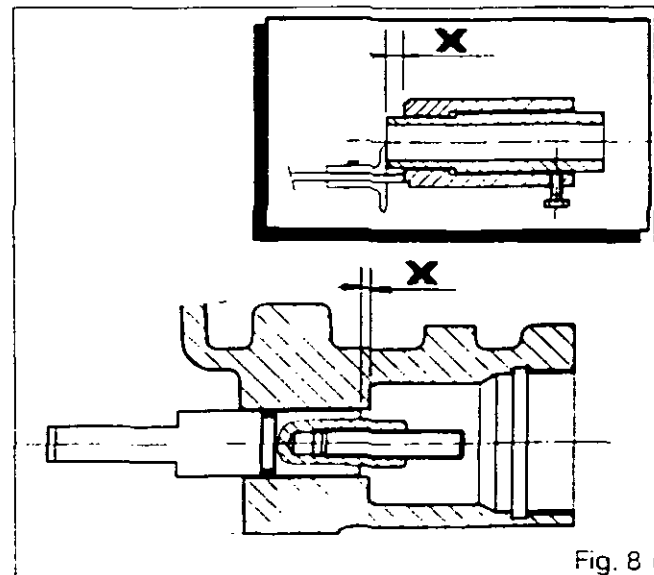

Fig. 8
13. With a depth gauge, measure the dimension X shown by the service tool (Fig.8).